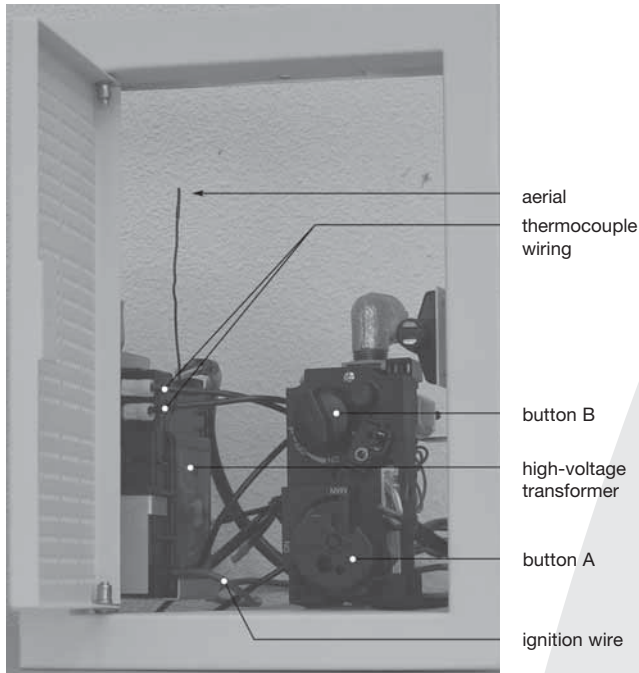

fig. 23
- Place the receiver in the control box, as indicated on fig. 23.
!Caution Do not place the antenna too close to the ignition cable and/or metal parts (for the correct position, see fig. 23);
The receiver is located in the control box (see fig. 23).
- Place the receiver as indicated in fig. 23
- Do not place the antenna too close to the ignition cable and/or metal parts: make sure the antenna is pointing upwards (for the correct position, see fig. 23).